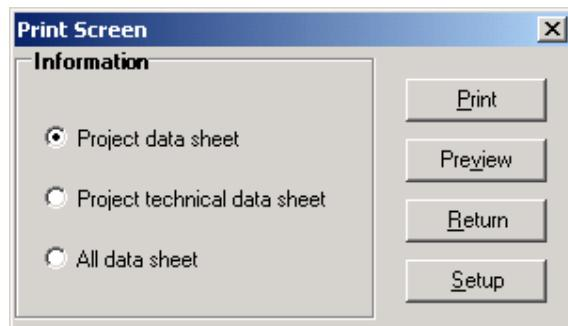

Figure 46. Print display
2. Select the items to be moved to Excel. You can print a project data sheet, a project technical data sheet or all data sheets for a project (see Figure 46).